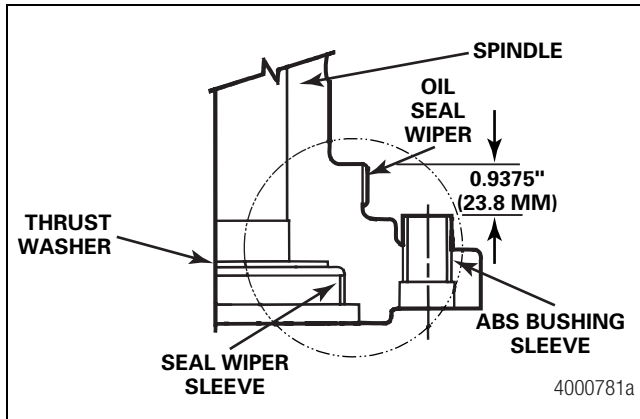

Figure 6.9
1. On units equipped for ABS, if the steel sleeve for holding the ABS sensor clip and ABS sensor has been disassembled, install the sleeve with a suitable driver. Install the sleeve into the spindle until it is 0.9375-inch (23.8 mm) below the inner bearing shoulder. Install the ABS sensor clip into the sleeve. Figure 6.9.